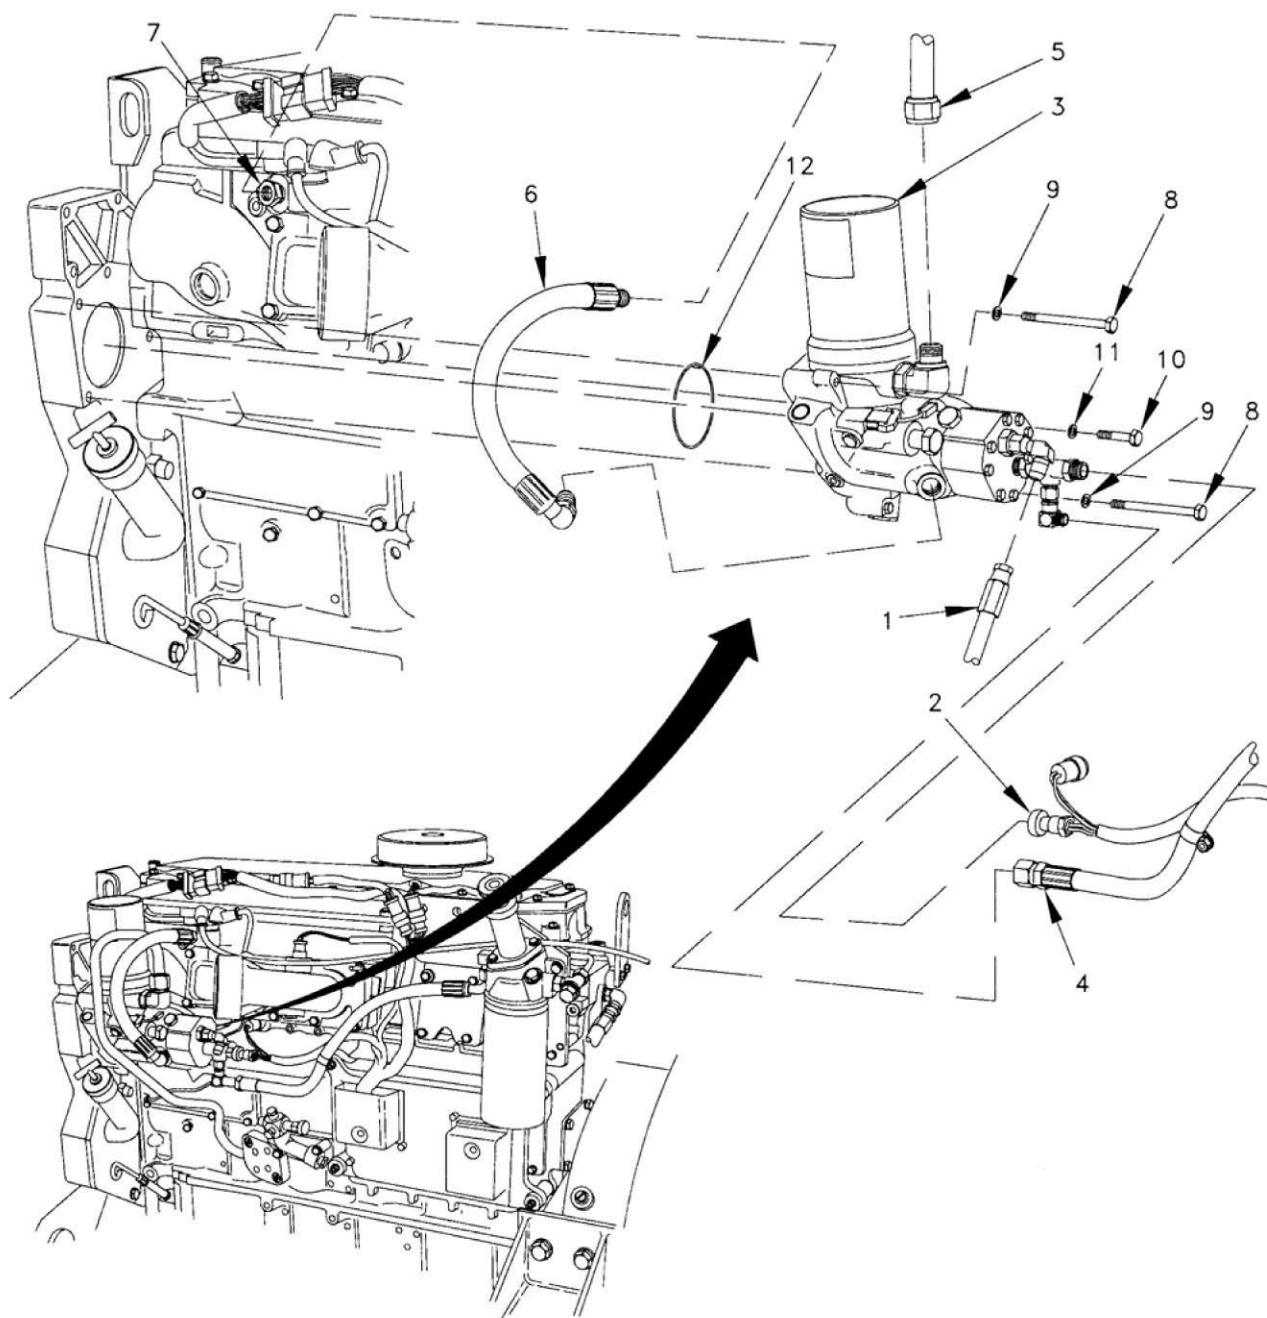

Figure 1. Fuel Transfer Pump.
2. Tag and disconnect hose (Figure 1, Item 1) and electrical connector (Figure 1, Item 2) from fuel transfer pump (Figure 1, Item 3).
3. Disconnect hose (Figure 1, Item 4) and tube (Figure 1, Item 5) from fuel transfer pump (Figure 1, Item 3).
4. Disconnect hose (Figure 1, Item 6) from adapter (Figure 1, Item 7) on engine and from fuel transfer pump (Figure 1, Item 3).
5. Remove two screws (Figure 1, Item 8), washers (Figure 1, Item 9), screw (Figure 1, Item 10), and washer (Figure 1, Item 11). Remove fuel transfer pump (Figure 1, Item 3) and O-ring (Figure 1, Item 12).